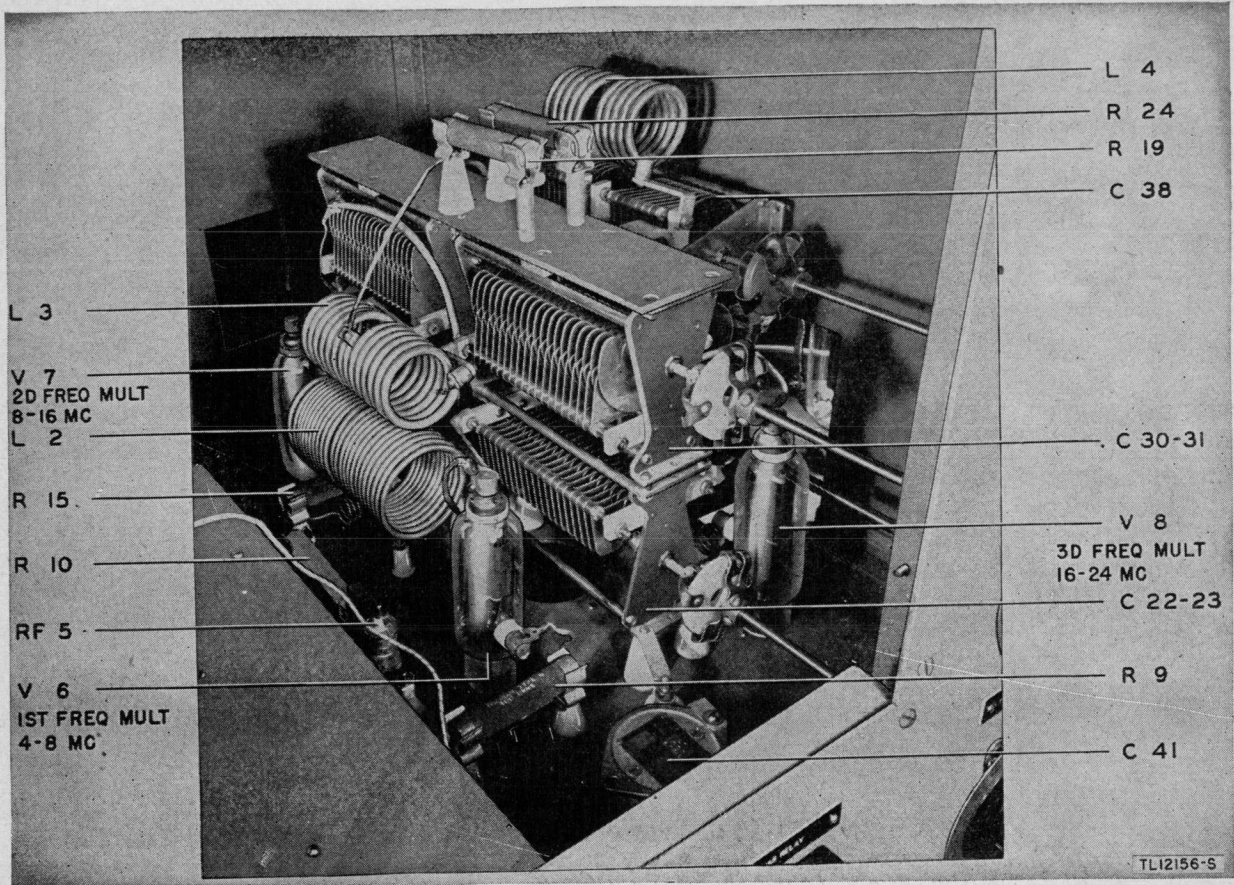

Figure 5. Frequency multipliers.
c. **FREQUENCY MULTIPLIERS.** The three frequency multipliers are located directly to the right of the buffer-amplifier chassis in the central section of the rectifier-exciter unit. (See fig. 5.) Access may be gained to it by opening the upper left-hand door of this unit. The **MULTIPLIER SELECTOR** enables the operator to select either the first, second, or third frequency-multiplier output according to the frequency desired. The first frequency multiplier covers the frequency range of 4 to 8 mc, the second frequency multiplier covers the range of 8 to 16 mc, and the third multiplier covers the range of 16 to 21 mc.